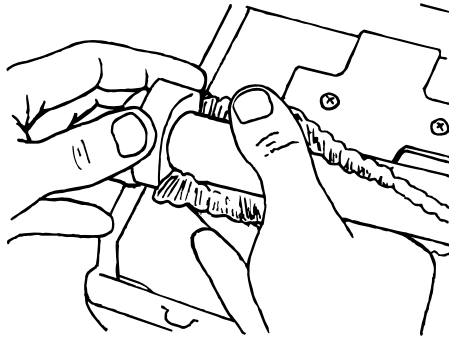

FIG. 2.
- b. Look closely at the two white bearing blocks and note that a number (1) shows on each block.
- d. Hold the brush and rotate each of the two white bearing blocks until you see the number (2) on each block. See **Figure 2**.